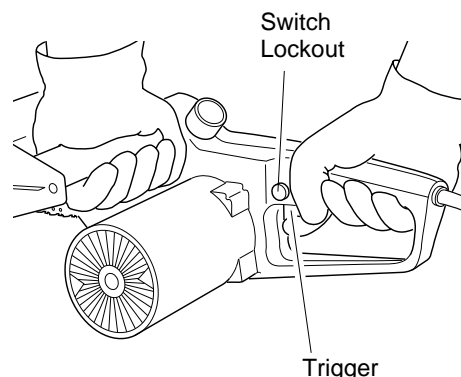

Figure 10 - Switch Lockout and Trigger Location
3. Use both hands to grip saw. Always use left hand to grip front handle and right hand to grip rear handle. Use firm grip. Thumbs and fingers must wrap around saw handles (see Figure 10).
5. When ready to make a cut, press in switch lockout with right thumb and squeeze trigger (see Figure 10). This will turn saw on. Releasing trigger will turn saw off. Make sure saw is running at full speed before starting a cut.